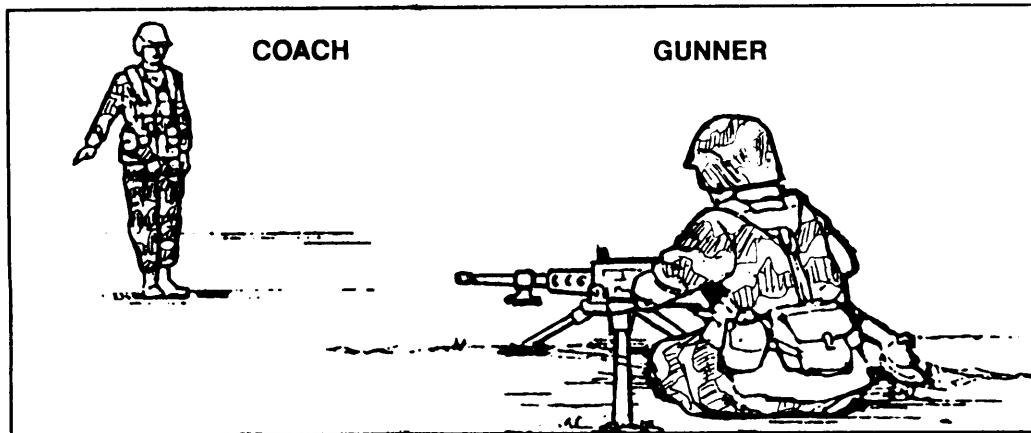

Figure 5-9. Manipulation exercise.
(5) The T&E manipulation exercise gives the gunner practice and the instructor a tool to evaluate the gunner's progress (Figure 5-9, page 5-12). The exercise is conducted in two stages. Both stages require the coach to give directions and the gunner to respond. In the first stage, the coach